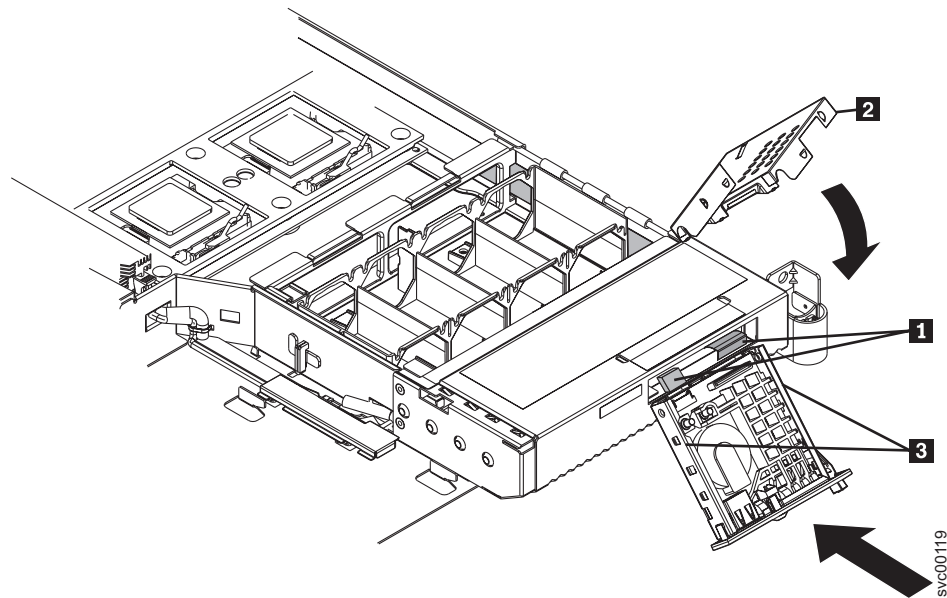

Figure 166. Replacing the operator-information panel
1. Plug in the two cables on the rear of the assembly **1**. See Figure 166.